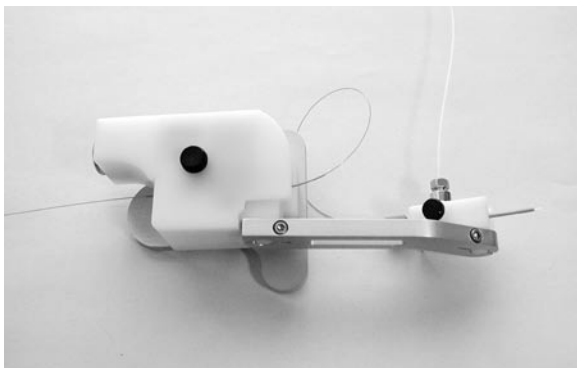

Figure 5.27: Plumbed UTM with cover in place
- 2) Replace the UTM module top. Replace the cover screw through the hole in the module top and align it with the mating hole in the module base and tighten. Figure 5.27 shows properly mounted UTM and tip holder.